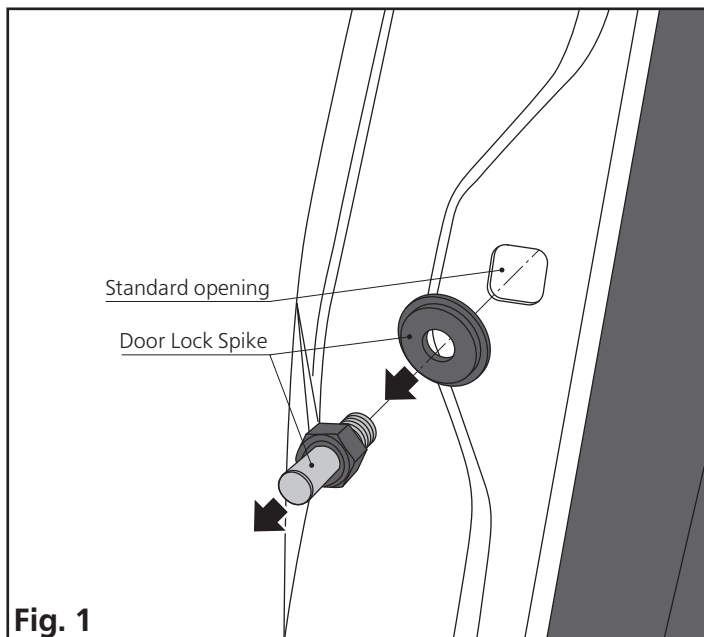

Fig. 1
1. Remove the standard spike of the upper lock on the rear pillar of the door opening (Fig. 1).